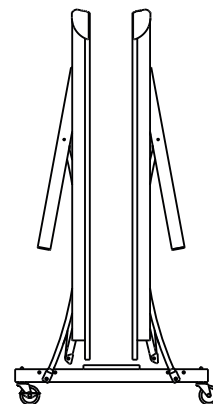

Figure 17
4. Raise other table half in the same manner as shown in Figure 17.